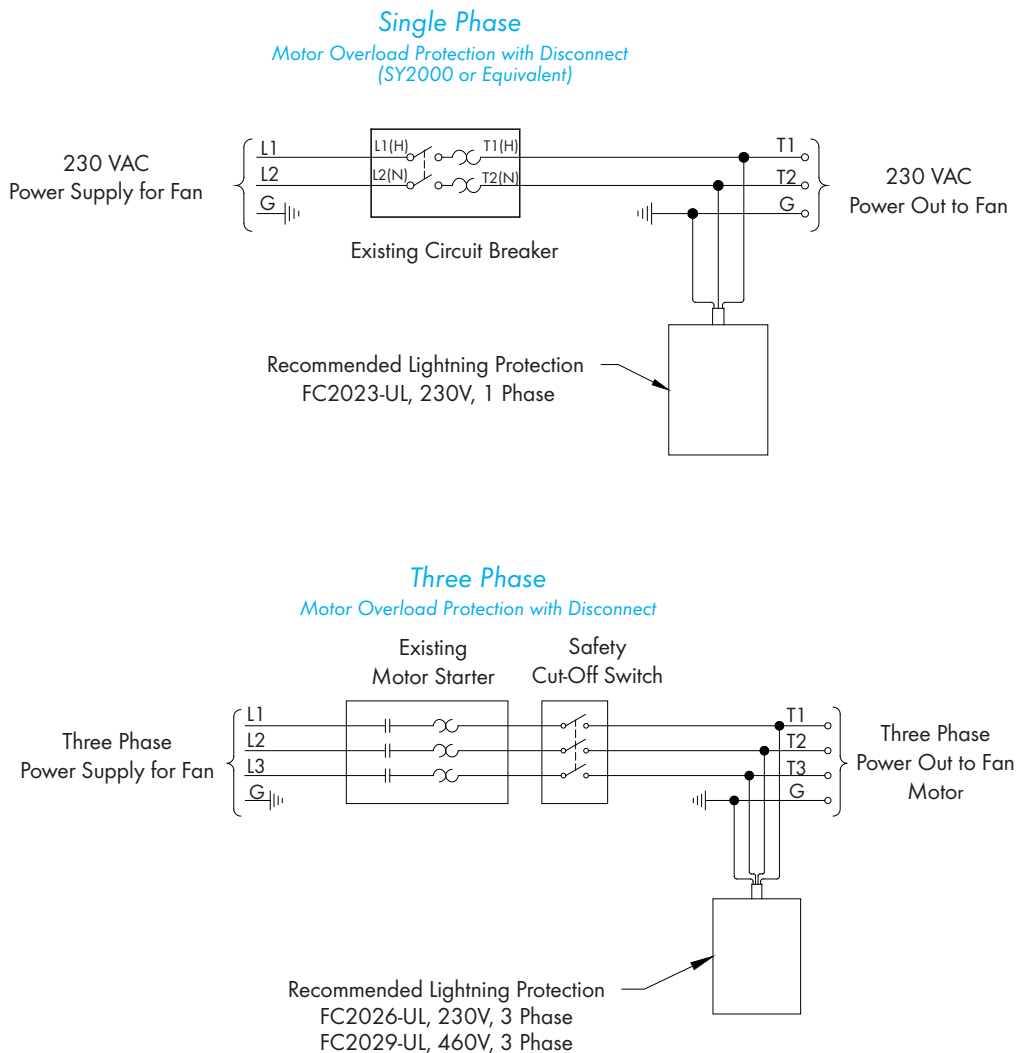

Figure 13B
**Single Phase and Three Phase Munters Drives:** Power Supply for fans to have circuit breaker or Fuse Protection. **The installer must refer to NEC and local codes to ensure safety and compliance. See Figures 13B and 13C.**
If lightning protection was purchased, wire it to the fan power supply as shown and secure the lightning protection unit out of the way of moving parts in the fan. **See Figure 13B. Continue on next page.**